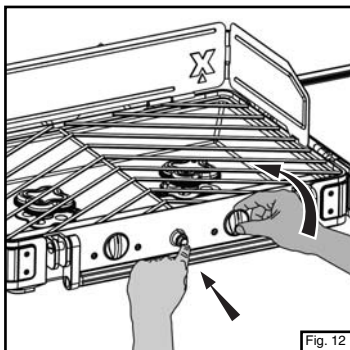

Fig. 12
- Push igniter button and hold; then open fuel valve fully (Fig. 12).